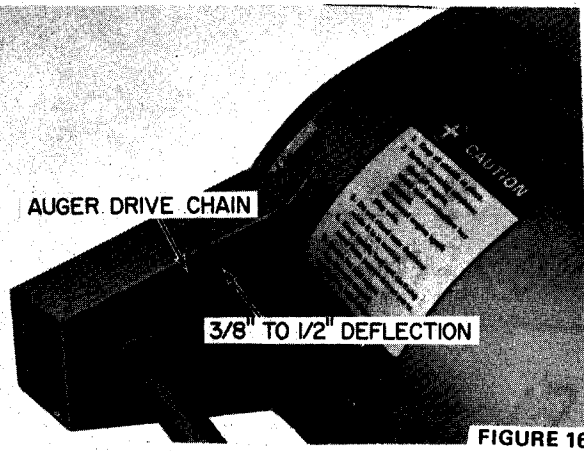

FIGURE 16
3. The auger drive chain should be adjusted until the chain deflects from $\frac{3}{8}$ " to $\frac{1}{2}$ " with finger pressure applied midway between the sprockets, Figure 16. Adjust drive chain as follows:
Once a month during season or every 25 operating hours, lubricate the auger drive chain, Figure 16, with heavy duty chain lubricant.